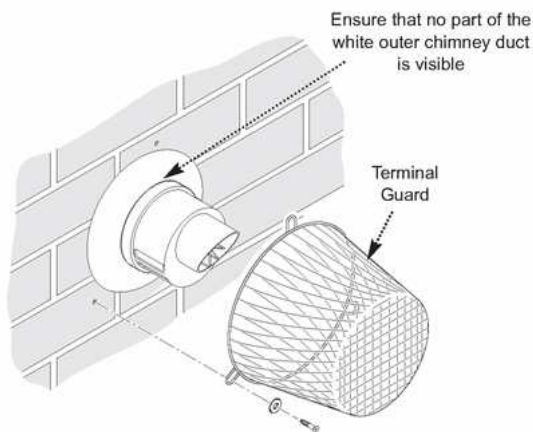

Fig. 15
1. When codes of practice dictate the use of terminal guards (Fig. 15) "Multifit" accessory part no. 720627901 can be used